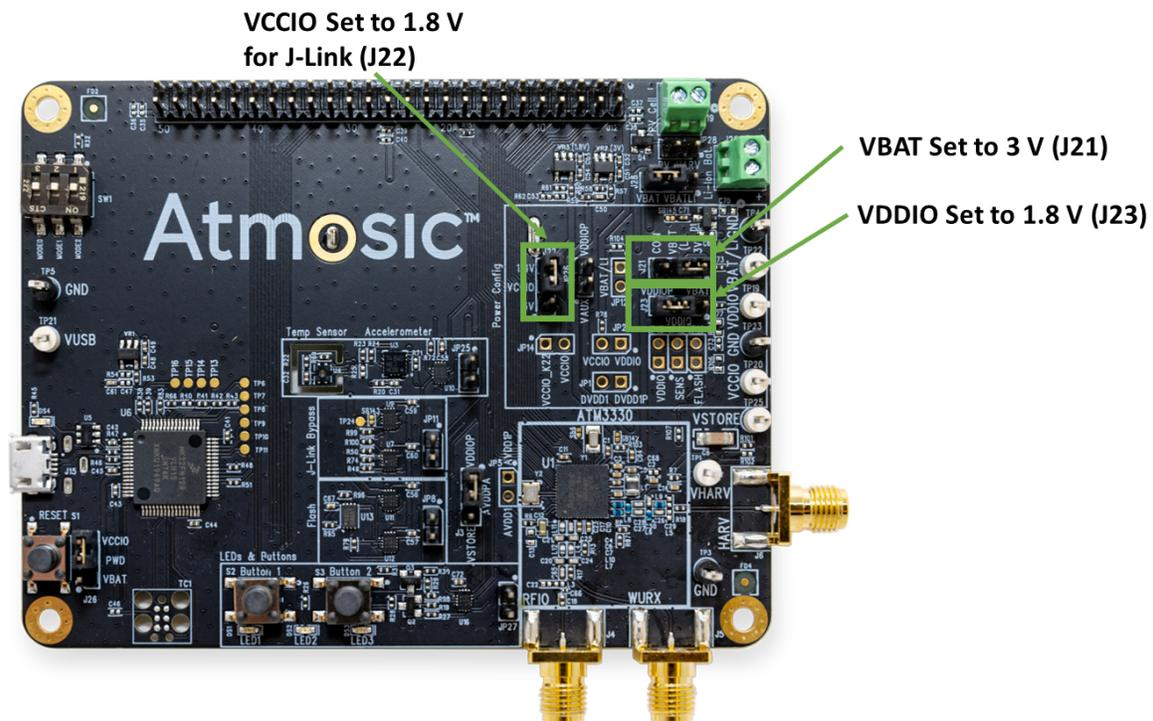
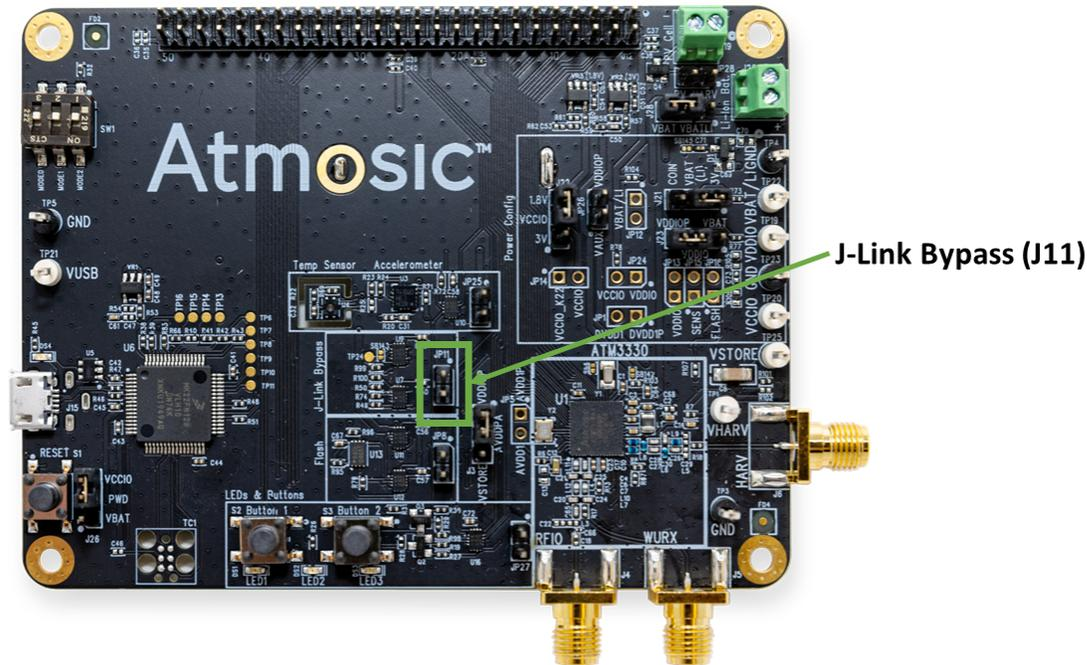

Figure 2 - ATM3330e v3.x Evaluation Board Default Configuration Jumpers
Figure 3 - EVB Power Measurement Jumpers Configuration - J-Link Bypass
- Figure 2 - ATM3330e v3.x Evaluation Board Default Configuration Jumpers
- Figure 3 - EVB Power Measurement Jumpers Configuration - J-Link Bypass
The default power configuration jumpers are shown in Figure 2, which sets the VBAT to be 3.0 V (J21), VDDIO at 1.8 V (J23), and sets VCCIO at 1.8 V (J22) I/O voltage for the MK22 microcontroller. The other headers are by default not populated. Note - For ATMEVK-3325-LQK, the jumper on J22 is not populated, since VCCIO is automatically configured based on the other setting on the EVK.
To configure the EVB for power measurements, please follow these instructions: (see Figure 2 and Figure 3 for jumper locations)
- 7) Add a jumper on JP11 to disconnect the MK22 and prevent it from drawing power from or providing power to the ATM33/e device (See Figure 3). Remove this jumper once the power measurement is done.